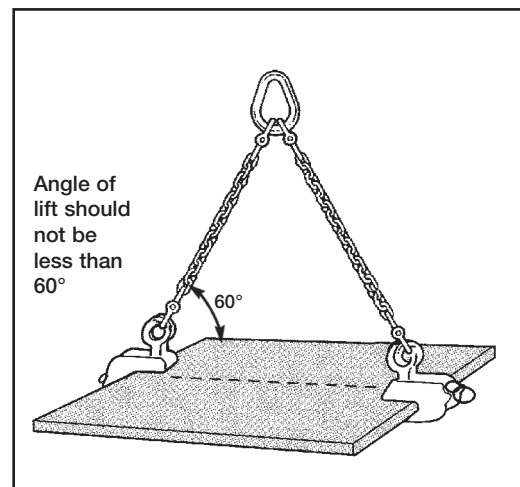
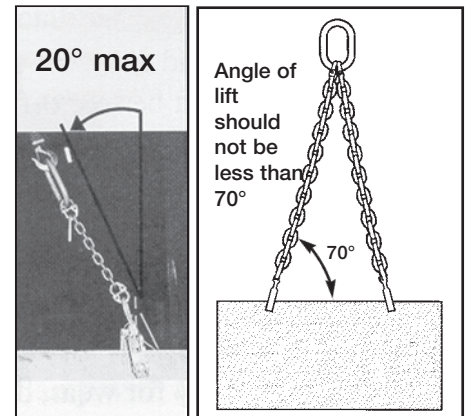

Figure 32
Figure 33
Determine if more than one sling is required to balance the load. When the size or shape of a plate or fabricated section is too large for one clamp to properly balance the load, the use of a multiple sling or spreader bar is required (Fig. 32).
- B. The lifting angle (Fig. 32) between the sling legs on opposite sides of the load should be less or equal to 60 degrees. The lifting angle (Fig. 33) between the sling legs on same side of the load should be less or equal to 40 degrees.
Position the clamp(s) to balance the load. Position the clamp(s) so the lifting force of the crane is directly in line with each clamp's lifting shackle, and the load is evenly distributed (Fig. 33).